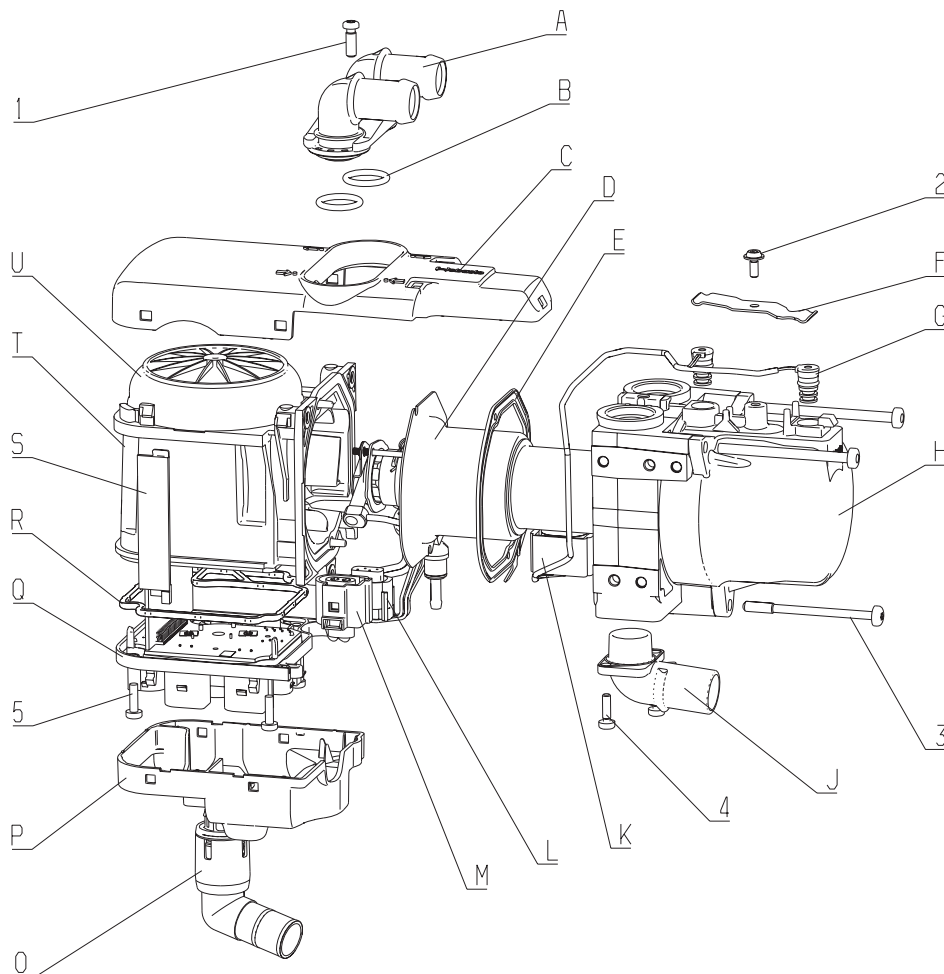
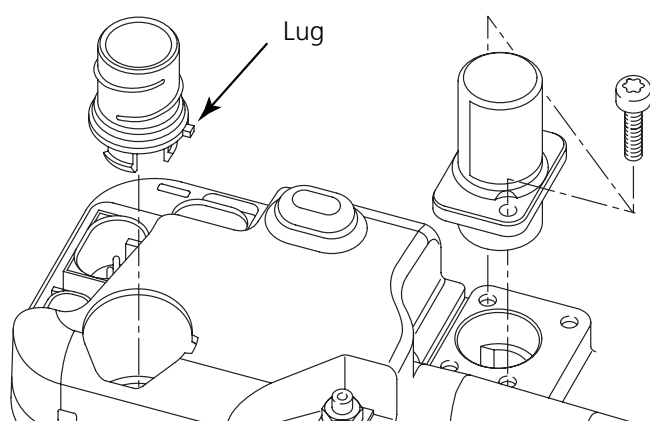

Fig. 901 Dismantling heater
Fig. 902 Installing air-intake and exhaust connection piece
1. Loosen screw (1, Fig. 901) and remove water connection piece unit (A) with O-rings (B).
2. Loosen screw (4) and remove exhaust connection piece (J) from heat exchanger (H). This work step is eliminated with a fixed exhaust connection piece.
3. Loosen heater cover (C) at 4 side detents on fan housing (T) with a screwdriver. Then remove heater cover (C) from heater toward front.
4. Remove cable cover (S) from fan housing (T).
5. Press air-intake connection piece (O) slightly to side and pull out of control unit (Q) in axial direction.
6. Release connector cover (P) on side facing away from fuel connection piece at side detents with a screwdriver and take off heater.
7. Loose detent of connector (K, L, M) and pull connector off control unit (Q).
8. Loosen screws (3) and pull heat exchanger (H) off fan housing (T) in axial direction of screw fitting.
9. For information on removing the burner (D), see section 9.2.5.
10. For information on removing temperature sensor and overheating sensor (G), see section 9.2.8.
1. For information on installing new temperature sensors (G, Fig. 901), see section 9.2.9.
2. For information on installing burner (D), see section 9.2.7.
3. Clean heat exchanger (H) inside and outside and place on fan. Tighten screws (3) with  $7 \pm 0.7$  Nm and do not cut new thread if possible when doing so (i.e. turn screw into existing thread).
5. Place connector cover (P) on control unit (Q) and engage with light pressure.
6. Insert air-intake connection piece (O) into control unit (Q). In the process, the lug of the connection piece (O) must be guided into the opening provided (facing in direction of fuel connection piece). See Fig. 902.
It is not permissible to remove parts of the fan housing (T, Fig. 901)!
3. Loosen screw (2, Fig. 901).
4. Remove retaining spring (F) and pull sensors out of heat exchanger (sensors are not accessible from inside). Do not pull on plastic head or cable when doing so.